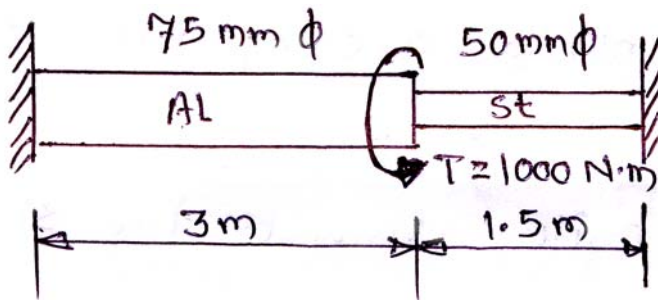

fig. 9(a)
- b) Two bars shown are to absorb the same amount of energy due to axial force. Ignoring the effect of stress concentration compare the maximum stress induced in the two bars if they are made of same material. See fig. 9(b).